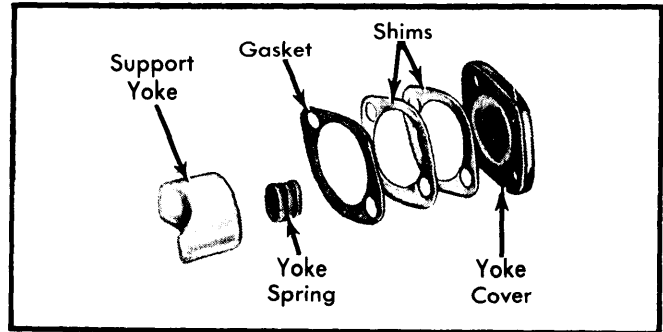

Fig. 1 Support Yoke & Rack Adjustment
- 2) Remove yoke cover, gasket, shims and yoke spring (see Fig. 1). Clean cover and housing flange areas thoroughly. Reinstall yoke and cover **without** gasket, spring, and shims. Tighten cover bolts lightly until cover just touches the yoke.